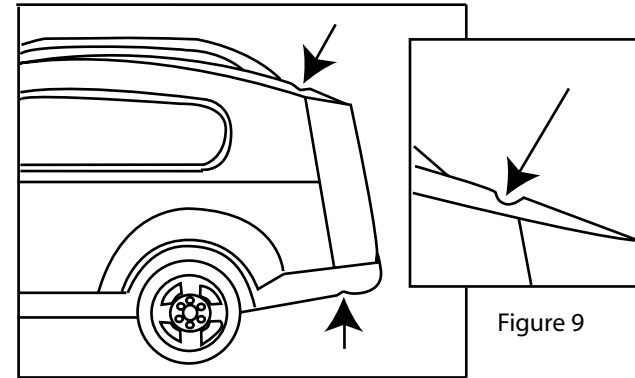

Figure 9
9. Locate the grooves in the BaseCamp trailers roof and bumper (Figure 9).